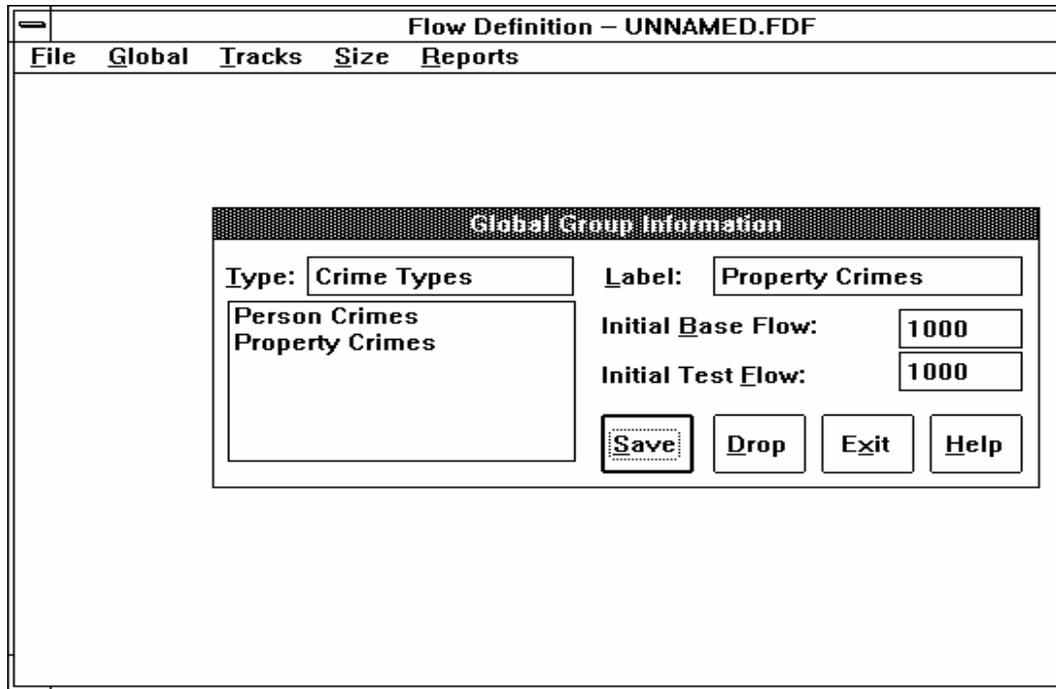

Figure 5-3. The second crime type defined.
10. Repeat the procedure for **Drug Crimes**. The screen will appear as in Figure 5-3.